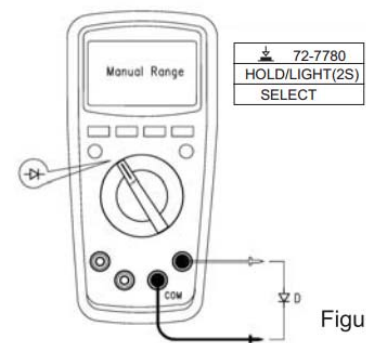

Figure 6
4. Diode measurement (see figure 6)